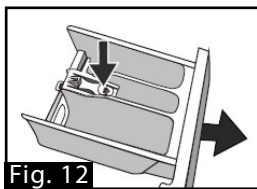

Fig. 12
1. Press down the arrow located on the softener cover  inside the drawer (Fig. 12).